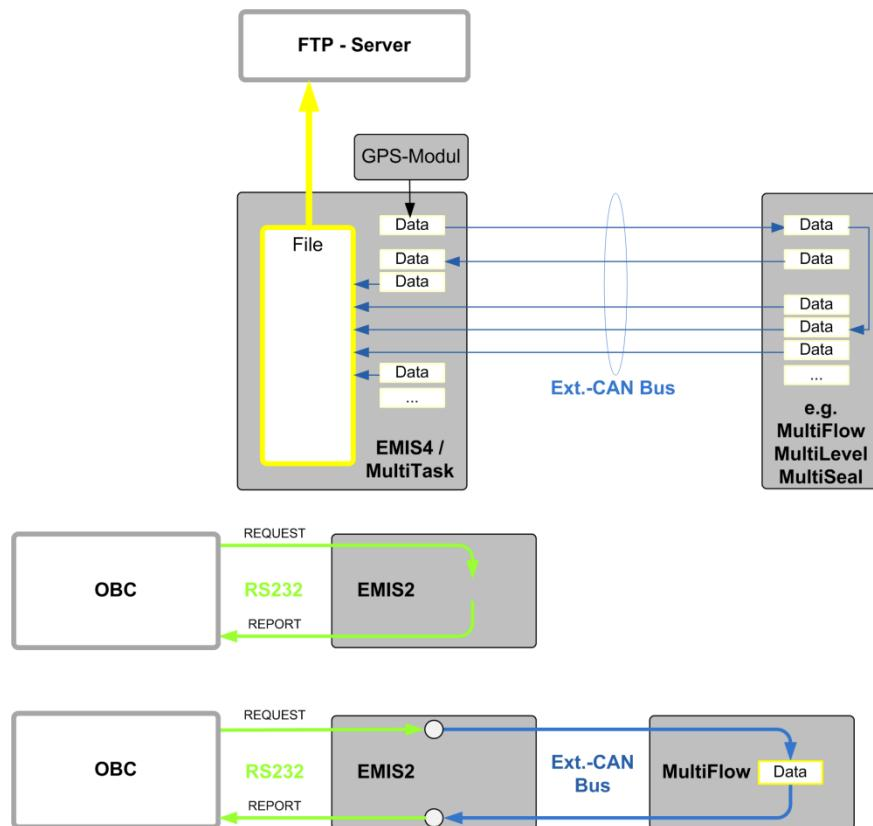

Fig.3: EMIS2 / EMIS4 / MultiTask Data Handling
- The data handling inside the EMIS4 is quite different. Needed data can be already available at the EMIS4/MultiTask or have to be requested from the other devices (Fig.3 e.g. MultiFlow). This is done by the CAN bus interface. Because one more CAN bus is currently used by other devices this one is called the *Ext.-CAN Bus*.